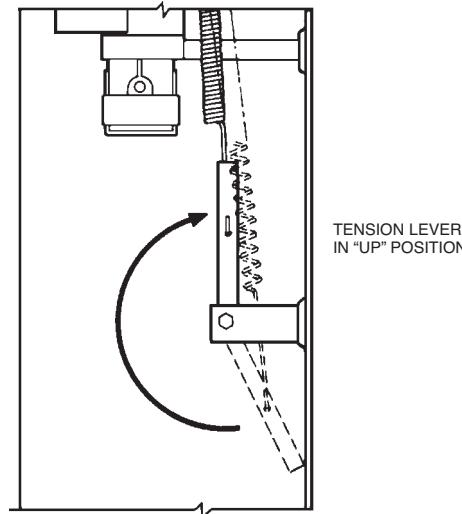

FIGURE 5
- 19. Raise tension lever to "UP" position. See Figure 5.